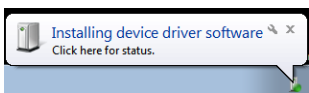
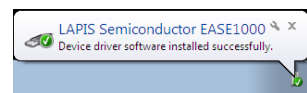

Figure 3 The USB driver installation message 1
Figure 4 The USB driver installation message 2
- 3-2. Connect the EASE1000 to PC using the USB cable. In case of Windows7, if you first connect EASE1000 to PC, the messages as the following Figure 3 and Figure 4 are displayed in sequence.